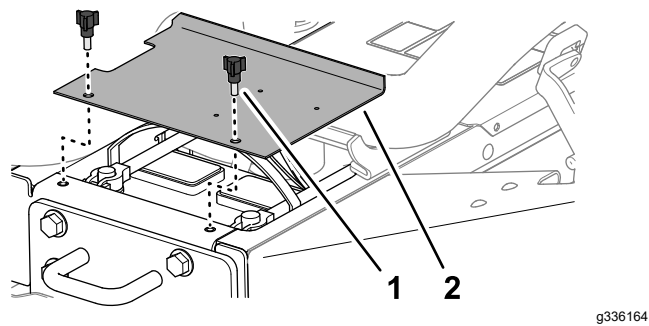

Figure 42
- 1. Release the latches at the left side and right side of the hood (Figure 42).